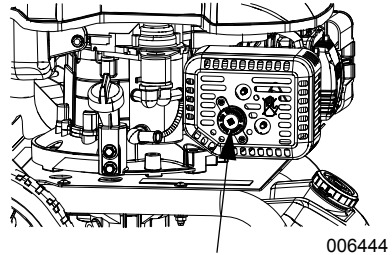

Figure 4-9. Spark Arrestor Fasteners
4. See Figure 4-9. Loosen fasteners and remove spark arrestor from muffler.